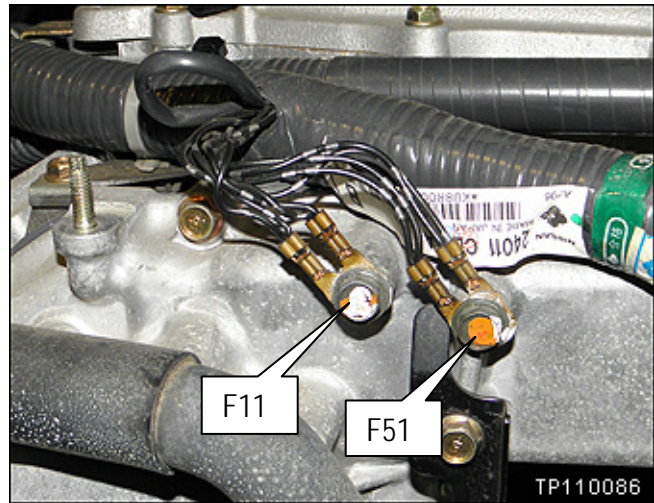

Figure 2
8. At the front of the engine, locate and clean the engine harness grounds F11 and F51 (see Figures 2 and 3).